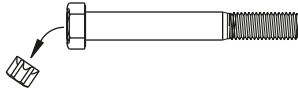

Figure 162: E20 Torx Shear Head Lower Shock Bolt
- If lower bolt has a separate nut, hold this with a suitable spanner. Use an E20 Torx socket to tighten the shear-type lower shock mount bolt until the Torx head shears off, which occurs at around 320 Nm. Refer Figure 162.